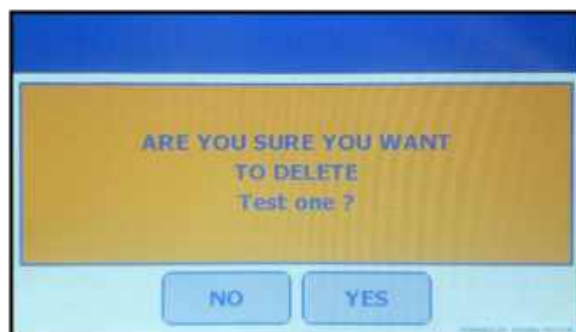

Figure V-15: Confirm Delete Program (Assay Name “Test one”)
3. Press [DELETE] to delete program. The FP-24 5G displays “ARE YOU SURE YOU WANT TO DELETE {ASSAY NAME}” to confirm deletion. Press [YES] to delete. \(Figure V-15\)